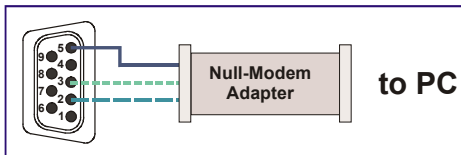

Figure 5: Straight Cable RS-232 Connection with a Null Modem Adapter
**Method B** (Figure 5)—Connect the RS-232 9-pin D-sub port on the unit via a straight (flat) cable to the null-modem adapter, and connect the null-modem adapter to the RS-232 9-pin D-sub port on the PC. The straight cable usually contains all nine wires for a full connection of the D-sub connector. Because the null-modem adapter (which already includes the flow control jumpering described in Method A above) only requires pins 2, 3 and 5 to be connected, you are free to decide whether to connect only these 3 pins or all 9 pins.